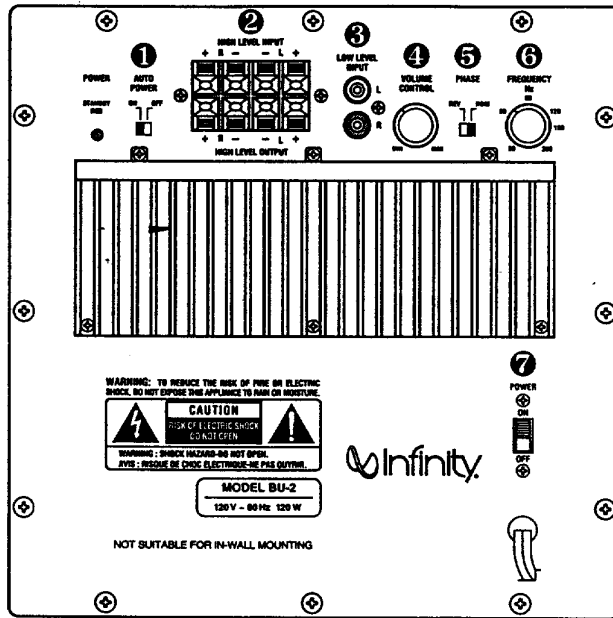

Figure 2
Refer to *Figure 2* to identify the controls of your subwoofer's internal amplifier:
1. Initially set the BU-2's Volume control ④ (*Fig. 2*) to 12 o'clock.
2. Initially set the BU-2's Frequency control ⑥ (*Fig. 2*) to 12 o'clock.
3. Slide the BU-2's Phase switch ⑤ (*Fig. 2*) to the "NOM" position (for normal polarity).
4. (Optional) Slide the BU-2's Auto Power switch ① (*Fig. 2*) to the "ON" position (otherwise "OFF" defeats auto-sensing).
6. Turn the Volume control ④ (*Fig. 2*) to its mid position. If no sound emanates from the subwoofer after the auto-sensing system turns it on (i.e., LED goes from red to green), check the ac line cord and input cables. Are the connectors on the cables making proper contact? Is the ac plug connected to a "live" receptacle? Once you have confirmed that the subwoofer is active, proceed by playing a CD, record, or cassette. Use a selection that has ample bass information.
7. Set the overall volume control of the preamplifier or stereo to a comfortable level. Adjust the subwoofer's Volume control ④ (*Fig. 2*) until you obtain a pleasing blend of bass. Bass response should not overpower the room, but rather be adjusted so there is a harmonious blend across the entire musical range. Many users have a tendency to set the
8. The Frequency control ⑥ (*Fig. 2*) sets the high frequency roll-off, adjustable from 50 to 200 Hz. Where you set this control depends on the low frequency capabilities of your satellite speakers, system placement, and other factors affecting the mid-bass region. Turn the control UP (clockwise) until you feel there is too much mid-bass information (around 100Hz) then back the control down a bit until that area sounds more natural. To hear more low bass, turn the Frequency control DOWN a bit and the Volume control UP by about the same amount. This will increase low bass while leaving the mid-bass sounding the same as it did before the adjustment. To reduce low bass without changing mid-bass, turn the Frequency control UP and the Volume control DOWN. Alternately slide the Phase switch between "NOM" and "REV" positions while listening to music. The selection that sounds the best is the correct adjustment for your system.